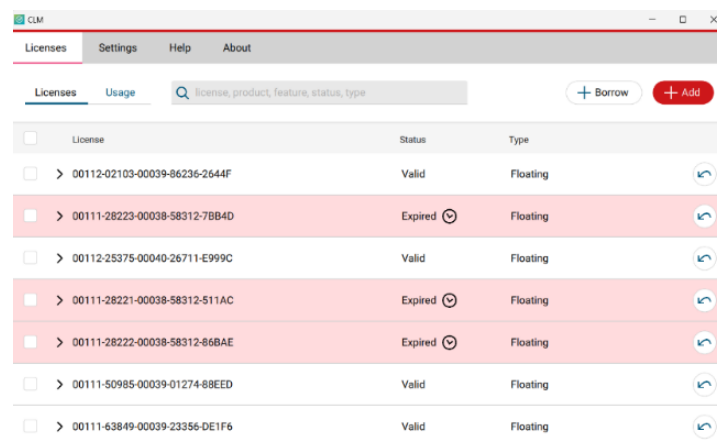

Fig. 4 CLM interface with list of activated EID
5. As the EID is correctly activated, the **CLM** interface shall show all the active licenses in the PC being used (Fig. 4).